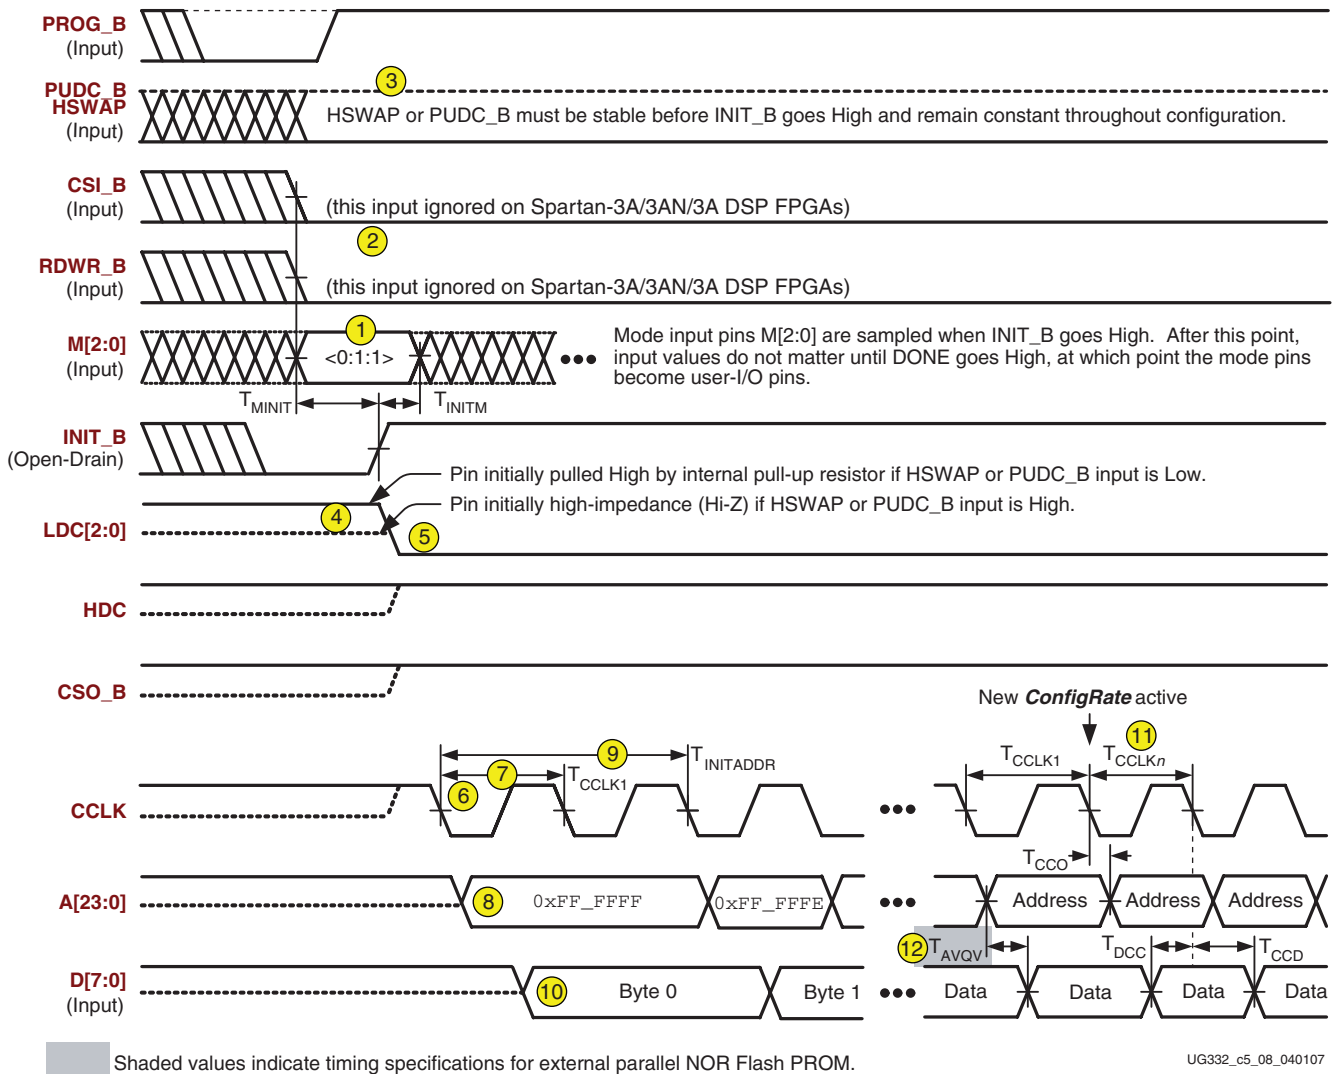

Figure 5-14: BPI Configuration Timing Waveform (Spartan-3E BPI Down mode shown)
Figure 5-14 provides a detailed timing diagram for the BPI configuration mode. The specific diagram is for the Spartan-3E FPGA family, using the BPI Down mode. However, the timing is also similar for the Spartan-3A/3AN/3A DSP FPGA families and for the BPI Up mode.
The following numbered items correspond to the markers provided in Figure 5-14.
3. The **HSWAP** or **PUDC_B** pull-up resistor control input must be setup and valid before the rising edge of **INIT_B**. Similarly, the example in Figure 5-14 shows the pull-up resistors enabled.